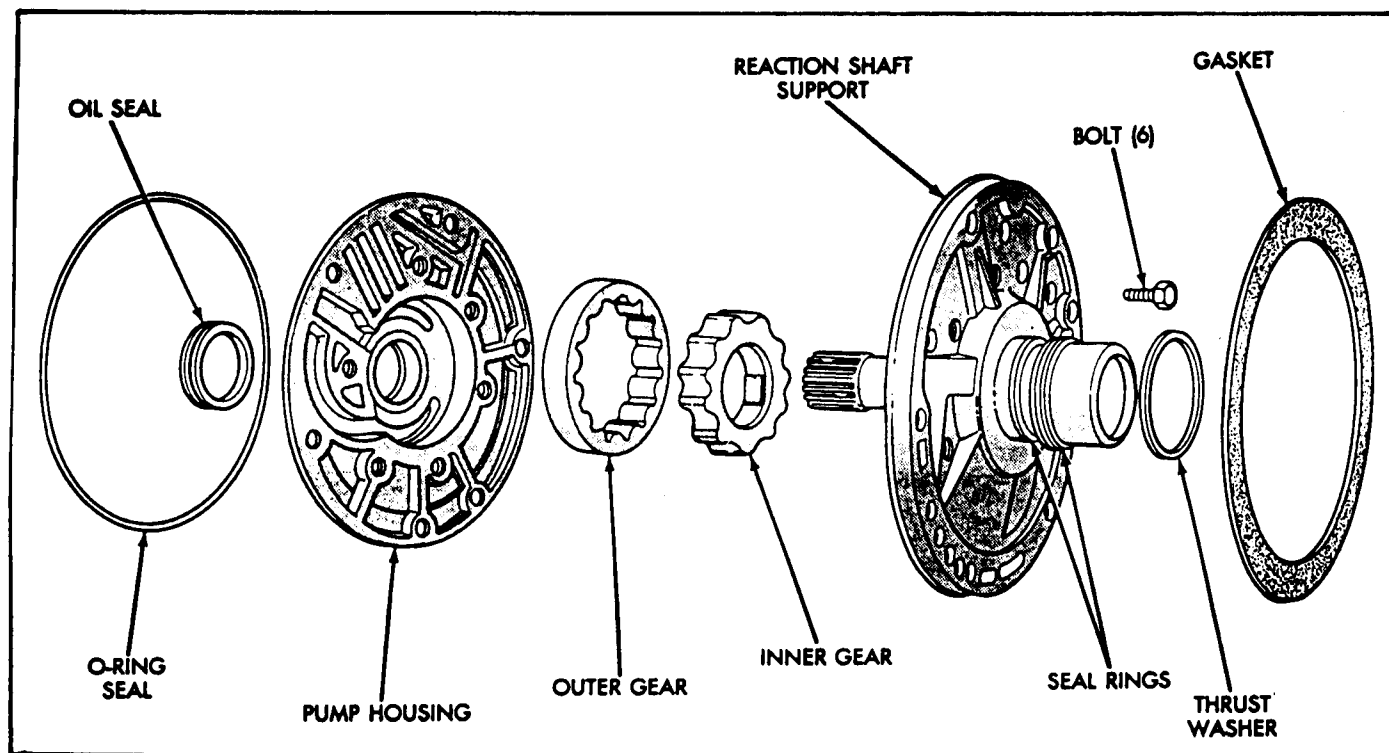

Figure 44
1. Clean and inspect all oil pump parts and components (See Figure 44).